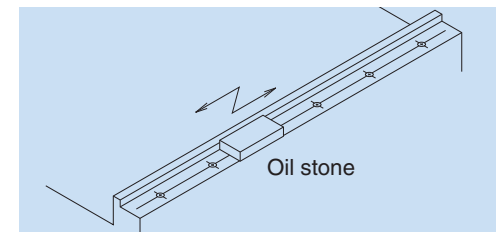

Fig. 10.12
(3) Installation procedures
- For both methods, wipe off the rust preventive oil applied to the linear guide. Remove burrs and small bumps on the machine base and table mounting surface with an oilstone (**Fig. 10.12**).